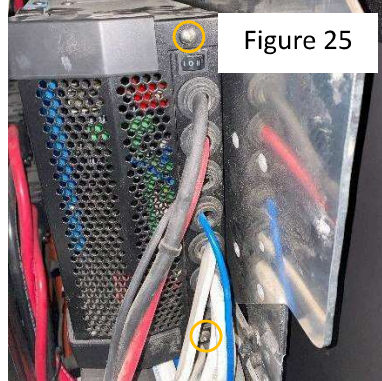

Figure 25
26. Remove either top or bottom Inverter cover (whichever is most accessible) by removing the two philips head screws and sliding off (Figure 25) NOTE: this step may require removing one of the breaker boxes